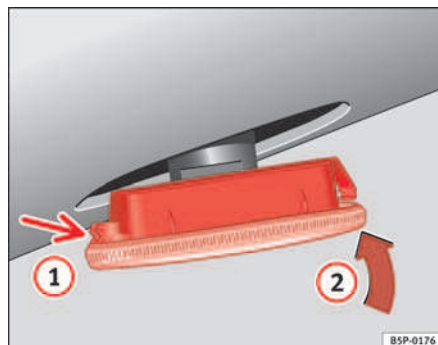

Fig. 186 Side turn indicator
- First place the indicator in the opening in the bodywork, fixing the tabs ⇒ fig. 186, arrow ①.
- Insert the lamp as shown by the arrow ② ⇒ fig. 186. ■